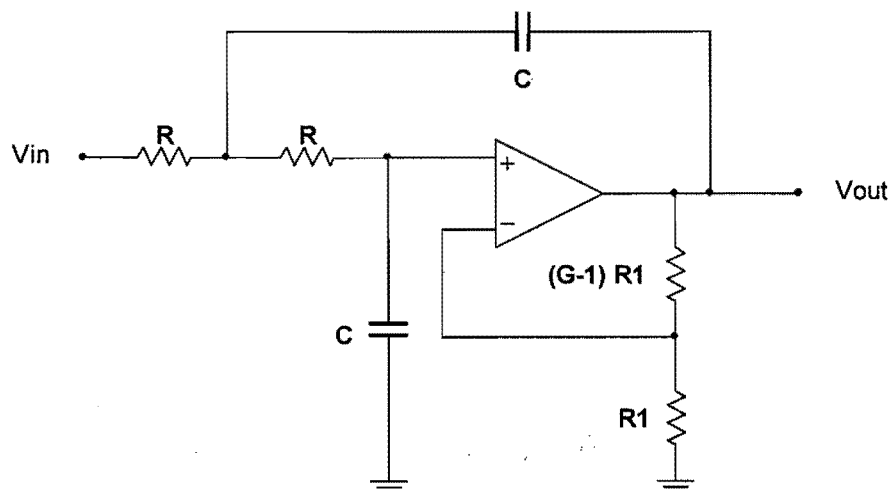

Fig. Q3a
- (b) In this question you are expected to design a **four-pole Butterworth lowpass filter** with a lower cut-off frequency  $f_c$  of 5 kHz. You are given that for the equal-component value, Sallen-Key, 4-pole, lowpass filter shown in Fig. Q3a, the components may be found using the following normalized data: